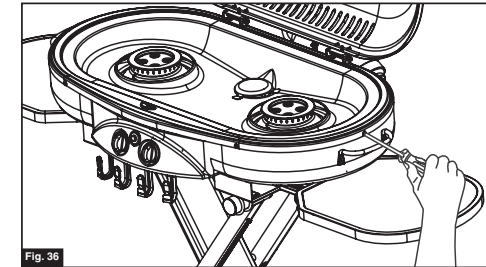

Fig. 36
3. Using a screwdriver, remove the screws holding the cooktop and set aside. (Fig. 36)